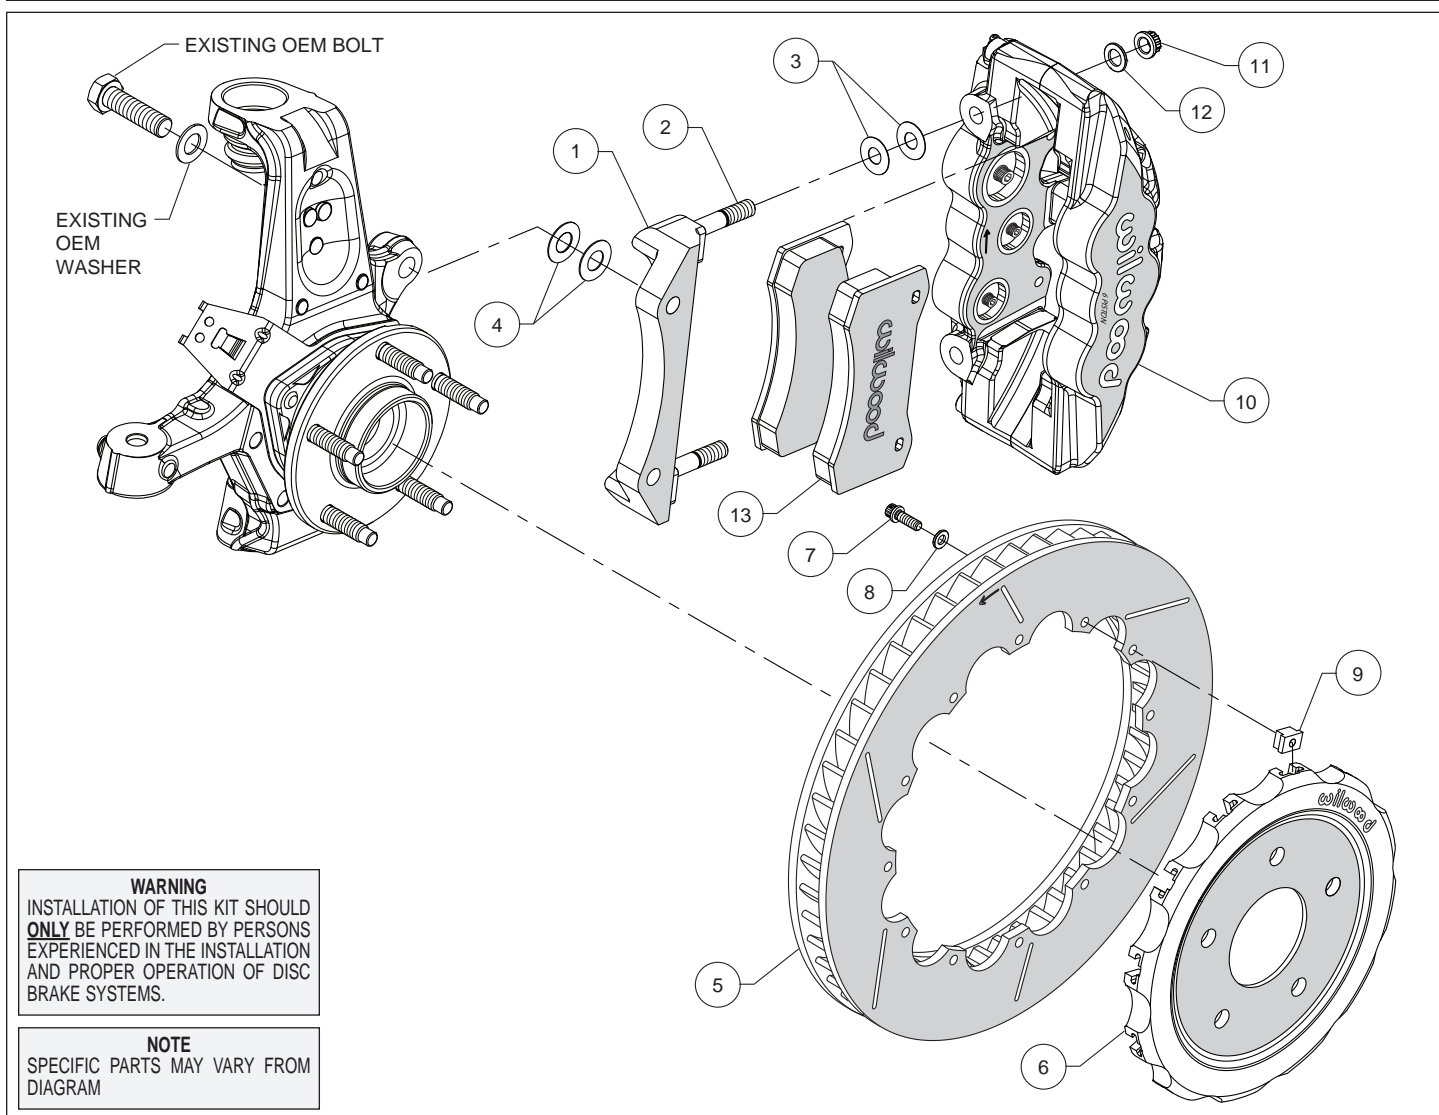
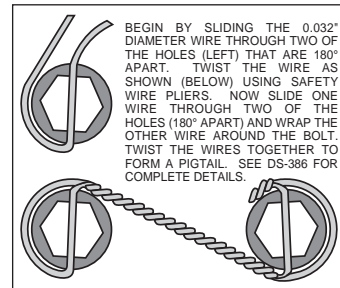

Figure 1. Typical Installation Configuration
Figure 3. Safety Wire Diagram
Assembly Instructions (numbers in parenthesis refer to the parts list and Figure 1 on the preceding pages):
- The caliper mount bracket (1) should initially be installed with clean, dry threads on the mounting bolts. Orient the bracket, as shown in Figure 1 and install using OEM bolts and washers. Initially place two .029" thick shims (4) on each bolt between the bracket and upright, Figure 1. Temporarily tighten the mounting bolts. **NOTE:** *The bracket must fit squarely against the mount bosses on the upright.* Inspect for interference from casting irregularities, machining ridges, burrs, etc. Later, after the caliper alignment has been checked, the mount bolts will be secured using red *Loctite*® 271.
- Orient the rotor (5) and the hat (6) as shown in Figure 1 and Photo 1. Assemble using bolts (7), washers (8), and t-nuts (9), Figure 1. Follow additional instructions included with the bolt kit. Using an alternating sequence, apply red *Loctite*® 271 to the threads, and torque to 120 **in-lbs**. For an added measure of security, the bolts may be safety wired using standard 0.032 inch diameter stainless steel safety wire as shown in Figure 3. Refer to Wilwood's data sheet DS-386 (available at www.wilwood.com/Pdf/DataSheets/ds386.pdf) for complete safety wire installation instructions.
- **NOTE:** *This kit contains distinct right and left hand calipers that must be mounted in a specific direction, as described below.* Lubricate the caliper mounting studs (2) with lightweight oil. Initially place two .016" thick shims (3) on each stud between the caliper and the bracket, as shown in Figure 1 and Photo 2. Mount the caliper (10) onto the bracket (1) using lock nuts (11) and washers (12), Figure 1. Temporarily tighten the lock nuts. Ensure that the caliper is mounted so the largest pistons are at the rotor exit end of the caliper, in relation to the direction of the rotor. View the rotor through the top opening of the caliper. The rotor should be centered in the caliper, Photo 3. If not, adjust by adding or subtracting shims (4) between the bracket and the upright. Always use the same amount of shims on each of the two mounting bolts. Once the caliper alignment is correct, remove the bracket mounting bolts one at a time, apply red *Loctite*® 271 to the threads, and torque to 77 ft-lbs.
- Remove the two pad retaining pins from the caliper (10) by carefully popping out the pin retaining clips and sliding out the pins. Insert the brake pads (13) into the caliper from the bottom, Figure 1 and Photo 4. With the friction material facing the rotor, secure the brake pads in place with the pad retaining pins and clips, Photo 5. Reinstall the caliper onto the caliper mounting bracket and temporarily tighten the lock nuts. Check that the top of the brake pad is flush with the outside diameter of the rotor, Photo 6. If not, adjust by adding or subtracting shims (3) between the caliper and the bracket. After the caliper pad height is set, torque the caliper lock nuts (11) to 47 ft-lb.